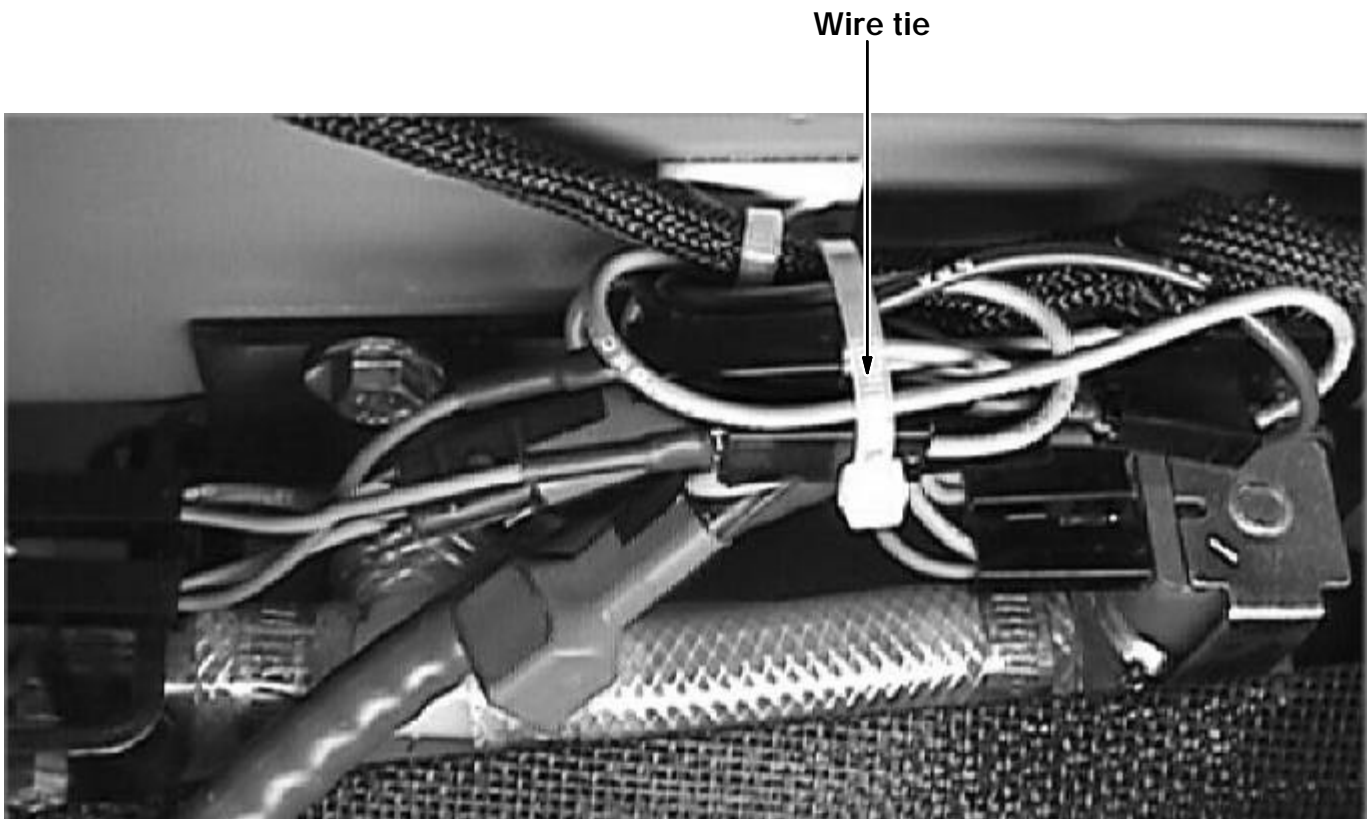

FIG. 4 - WIRE TIE ASSEMBLIES TO MAIN HARNESS
11. Wire tie the assemblies to the main harness. (Refer to FIG. 4)